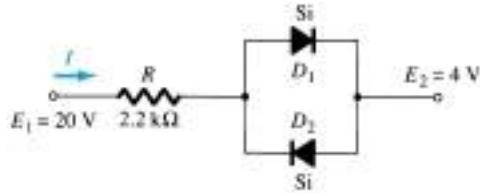

Fig. 7.
1. Determine the current I for the network of Fig. 7.